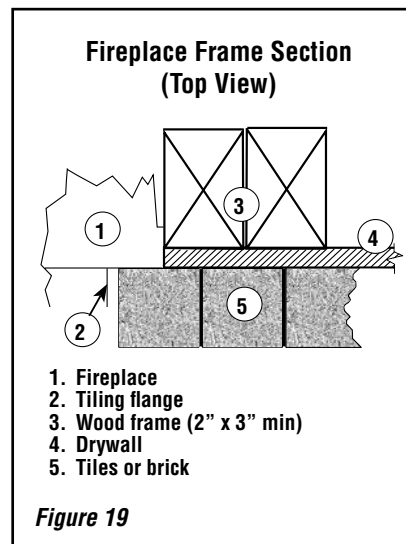

Figure 19
1. Combustible material must be installed flush with the fireplace. It may not project in front of and on the fireplace (i.e. the steel facade of the fireplace) (**Figure 19**).
2. Non-combustible materials such as brick, stone or ceramic tile may project in front of and onto the fireplace facing up to the tiling flange (**Figure 19**).